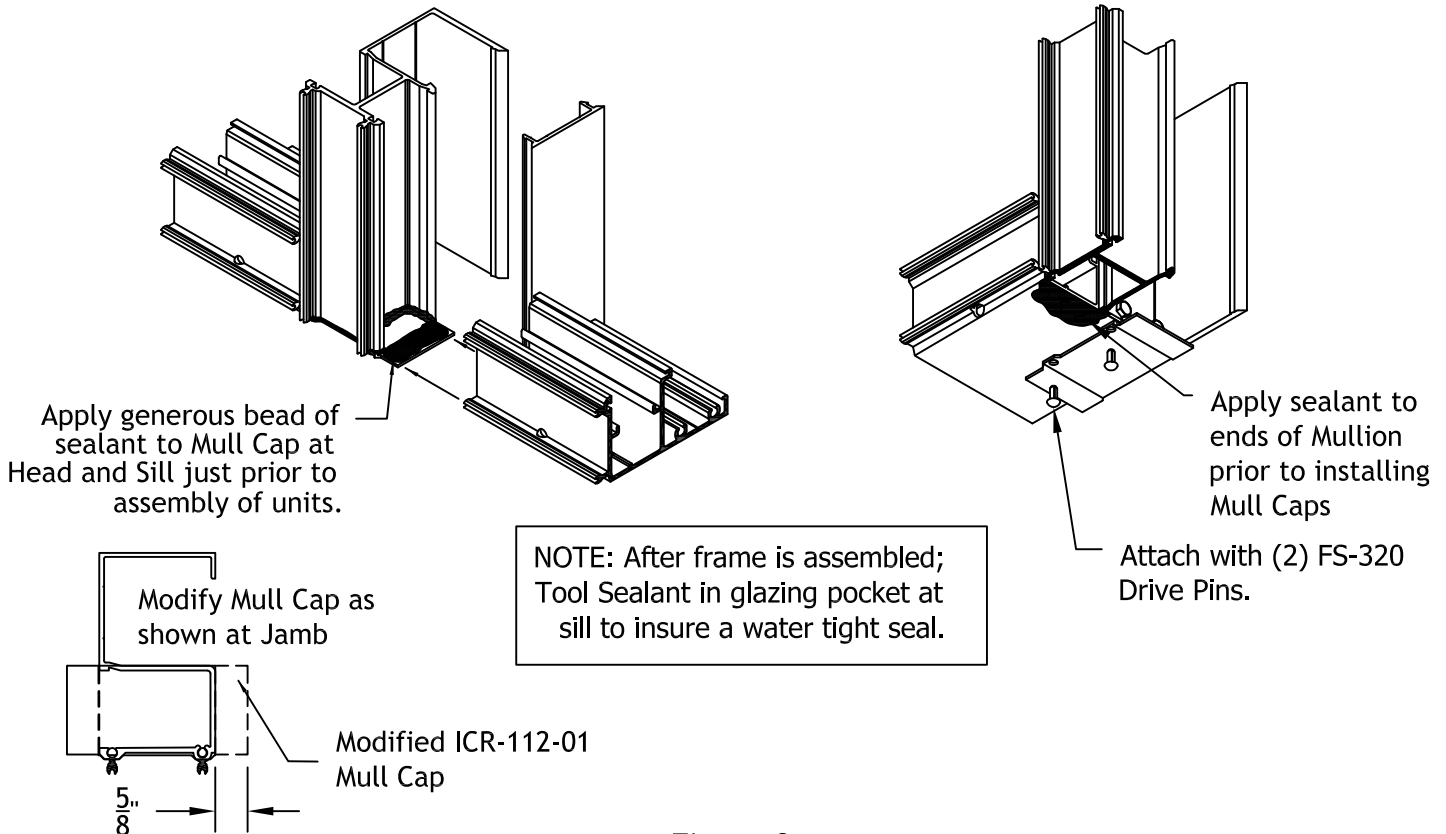
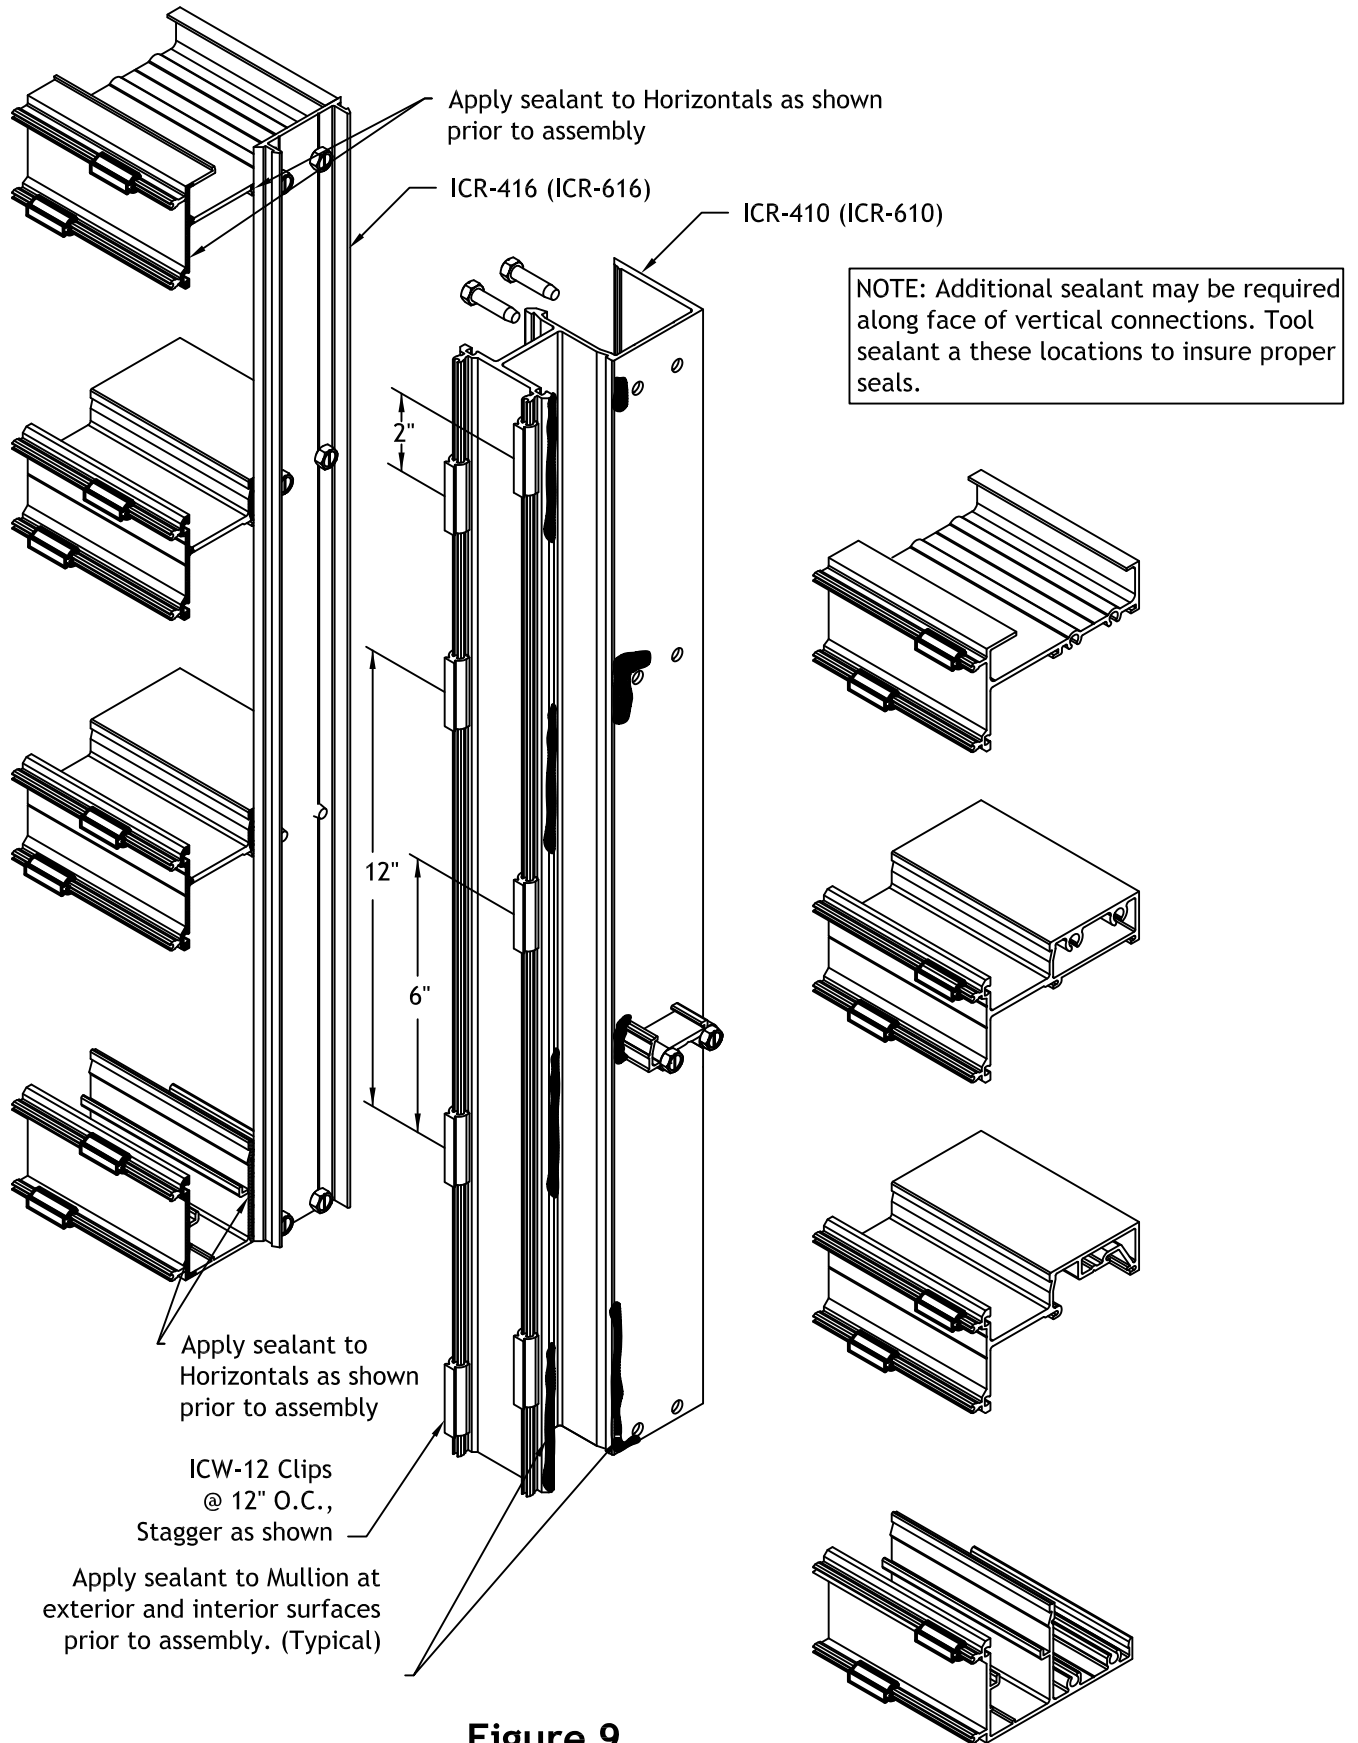

Figure 8
Figure 9
- 2.1 Attach ICR-112-01 mull caps using (2) FS-320 #10 U-Drive fasteners. Install and seal as shown in FIGURE 8, page 9. The attachment and sealing of the mull caps is one of the most critical phases of the installation of the Type "A" assembly. After installation of each unit, tool sealant around glazing pocket to insure water tight seal. Add sealant as required. Special care and attention should be given to this process.
- 2.2 Install ICW-12 isolator clips on all vertical and horizontal framing members at 12" o.c., stagger the clips by approximately 2" at the ends and 6" at intermediate clips. SEE FIGURE 9, page 10. Check ICR-12 clip locations to insure they do not block the weep hole in face caps. ICR-312 isolator clip/baffles must be installed over each horizontal weep hole. Once clips are installed, snap face caps into position. The vertical caps should be installed first, then horizontal, head and sill caps.
- 2.4 Attach head, sill and intermediate horizontals to verticals with (2) FS-8 #14 x 1" Hex Head screws. DO NOT OVER TORQUE SCREWS. SEE FIGURE 9, PAGE 10.
- a) Each frame unit will be assembled and sealed as shown in **FIGURES 8, page 9 & FIGURE 9, page 10** with mull caps installed as shown in **FIGURE 8, page 9**. A second bead of sealant is applied to the mullion cap that is protruding into the opening just prior to assembly of the frame units. **SEE FIGURE 8, page 9. NOTE: Sealant must be tooled at head and sill to insure proper seal.**